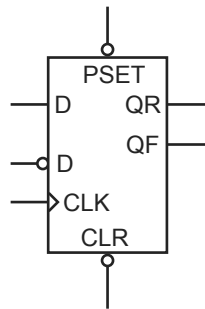

Figure 2-6 • DDR Register
Each I/O includes three registers: an input (InReg), an output (OutReg), and an enable register (EnReg). I/Os are organized into banks, and there are eight banks per device—two per side (Figure 2-6 on page 2-18). Each I/O bank has a common VCCI, the supply voltage for its I/Os.
2. Instantiate the DDR_REG macro (Figure 2-6)